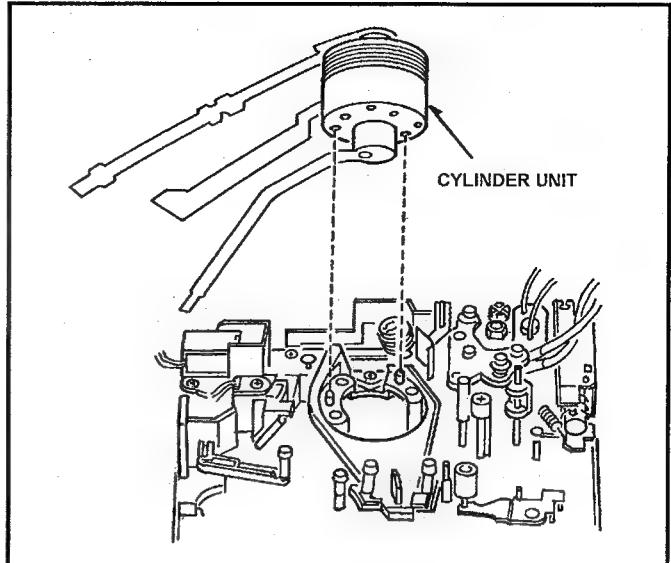

Fig. 10-1-3
2. After installing T1 Guide, T1 Guide position adjustment should be performed (Refer to item 10-8-1).
**Note:** When installing the Cylinder Unit, the pin on Mech. Chassis should match hole of Cylinder Unit as shown in Figure 10-1-3.